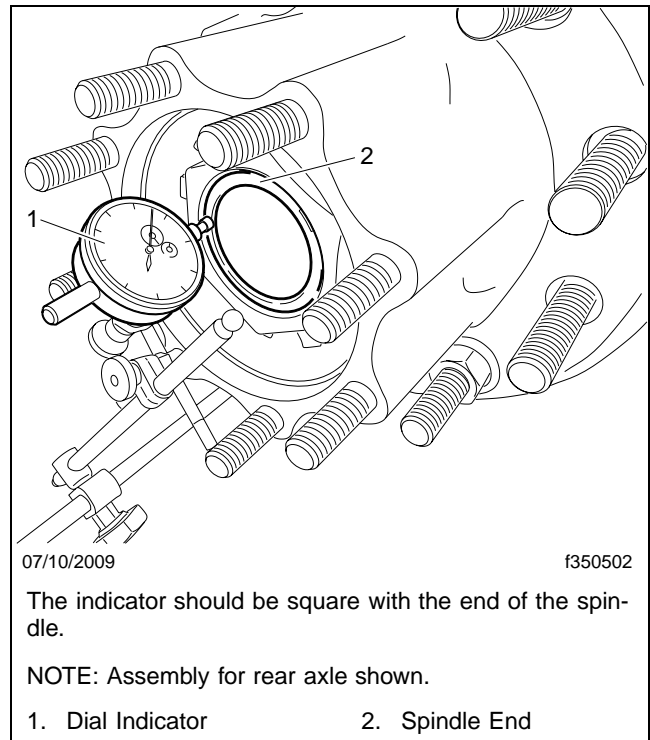

Fig. 22, Indicator Square with the Spindle (rear hub shown)
- 7.4 Set the measuring end of the indicator against the spindle end as shown in **Fig. 22**. The indicator should be square with the end of the spindle.